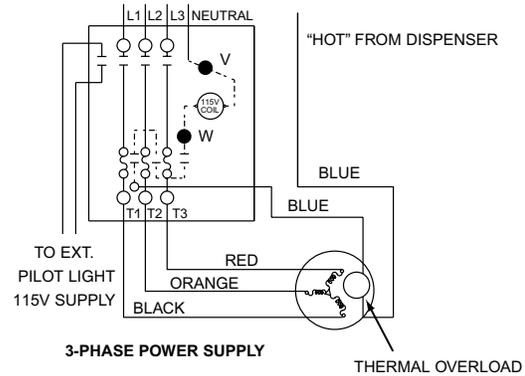

FIGURE 8
d. There are two remaining blue wires in the submerged pump junction box. Connect either blue wire to terminal L3 in the Magnetic Starter. Connect the other blue wire to one side of the “on-off” controls or switched “hot” from the electronic dispenser (See Fig. 8.) The “on-off” controls, if furnished by customer, must be of explosion proof construction.